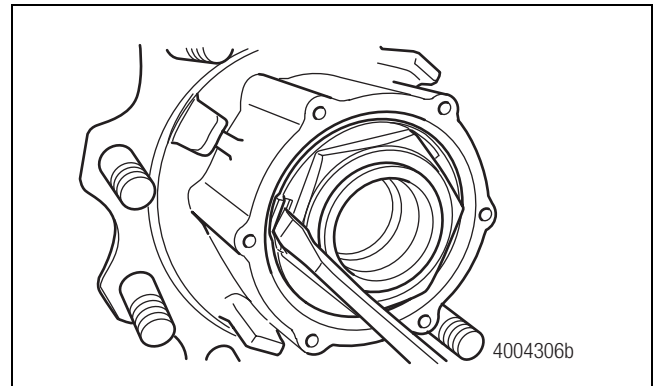

Figure 4.15
1. Use a screwdriver to release the stakes from the stake washer flange. Figure 4.15.